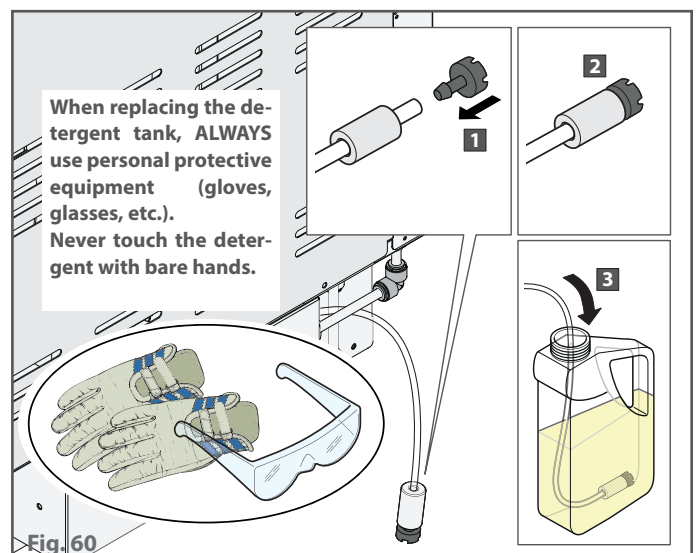

Fig. 60
- each time the detergent tank is replaced ► **Fig. 60**;